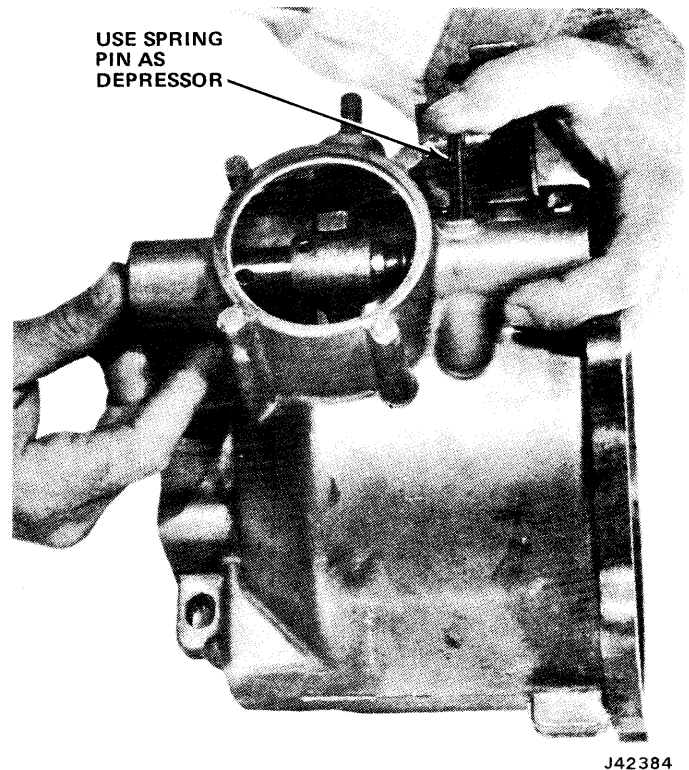

Fig. 8-35 Installing Shift Rail and Poppet Ball
- (6) Move shift lever assembly inward just far enough to allow installation of shaft locating taper pin.
- (7) Install taper pin.
- (8) Insert shift rail, grooved end first, into shift rail rear bore in case.
- (9) Rotate rail so flat side will be adjacent to poppet spring.
- (10) Slide rail inward far enough to allow shift fork to mesh with shift lever assembly and shift rail.
- (11) Push rail through shift fork until end of rail is even with edge of poppet bore.
- (12) Place poppet ball on end of spring.
- (13) Use spring pin as tool and compress poppet ball (fig. 8-35).